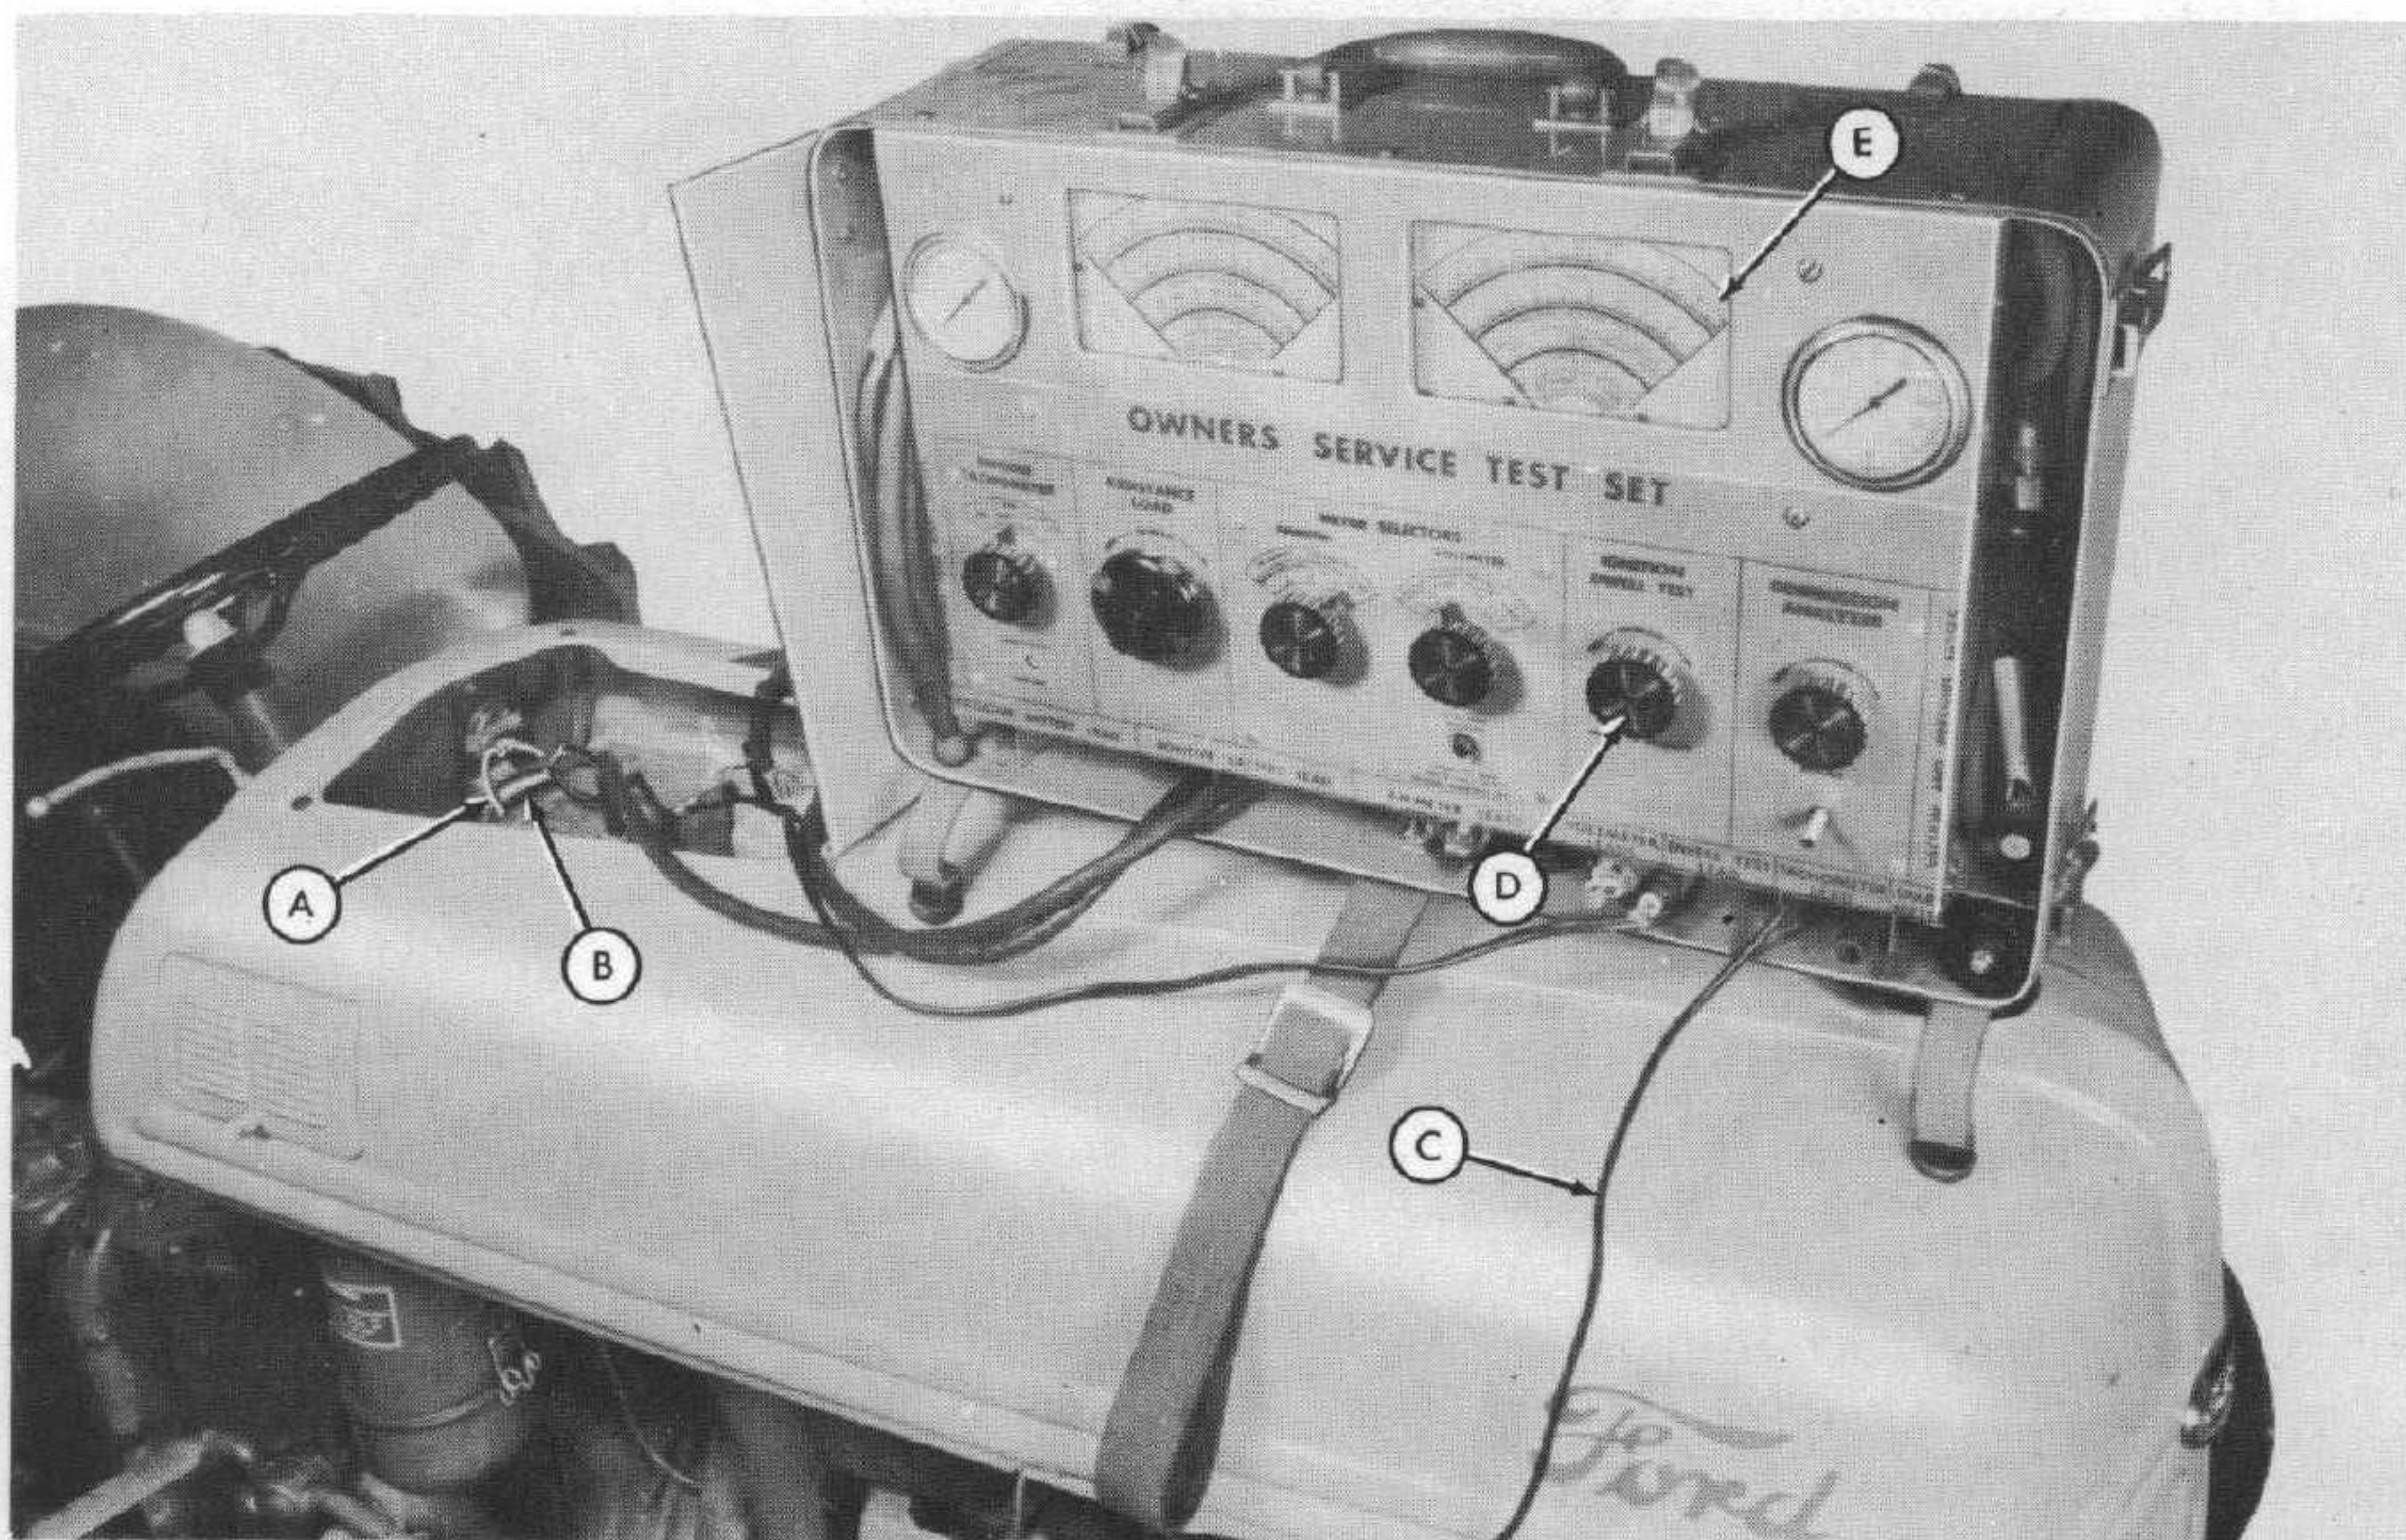

Fig. 11
- Step 2—Attach the dwell test leads of the test set by clipping the negative (black) lead to the lower terminal on the resistor (B-Figure 11) and the positive (red) dwell lead to the coil side of the ignition resistor (A-Figure 11).
- Step 3—Attach the tachometer lead (C-Figure 11) to any spark plug.
- Step 4—Adjust the ignition dwell test knob (D-Figure 11) until the ignition dwell meter (E-Figure 11) reads 100%. If no reading is obtained on the dwell meter, turn the engine over without starting it, until a reading is registered on the meter.
Step 6—Read the percent of dwell on the ignition dwell meter (E-Figure 11). It should read 39% to 42.5% if the distributor points are properly set. A reading higher or lower than 39% to 42.5% indicates improper spacing of the points.